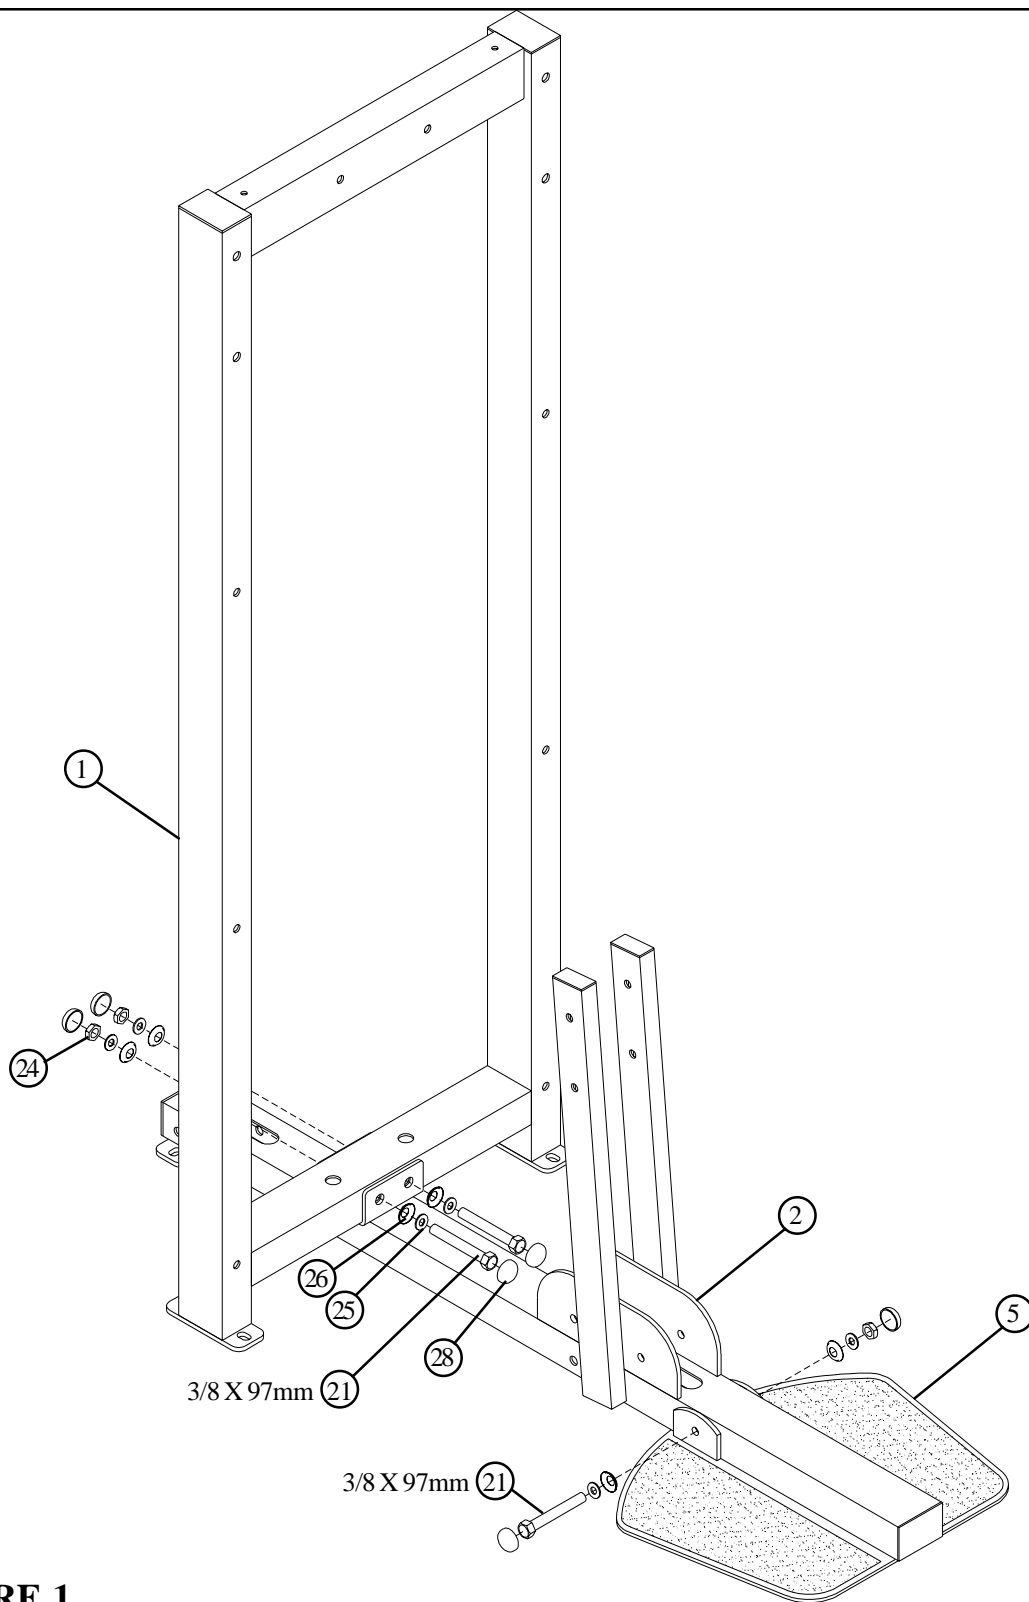

FIGURE 1
- **SECURELY** assemble the FOOT PLATE (5) to the BASE FRAME (2) using two RH CAPS (28), one 3/8 X 97mm BOLT (21), two 3/8" SAE WASHERS (25), two 3/8" RH WASHERS (26) and one 3/8" LOW HEIGHT LOCK NUT (24) as shown in FIGURE 1.
- **SECURELY** assemble the TOWER (1) to the BASE FRAME (2) using four RH CAPS (28), two 3/8 X 97mm BOLTS (21), four 3/8" SAE WASHERS (25), four 3/8" RH WASHERS (26) and two 3/8" LOW HEIGHT LOCK NUTS (24) as shown in FIGURE 1.